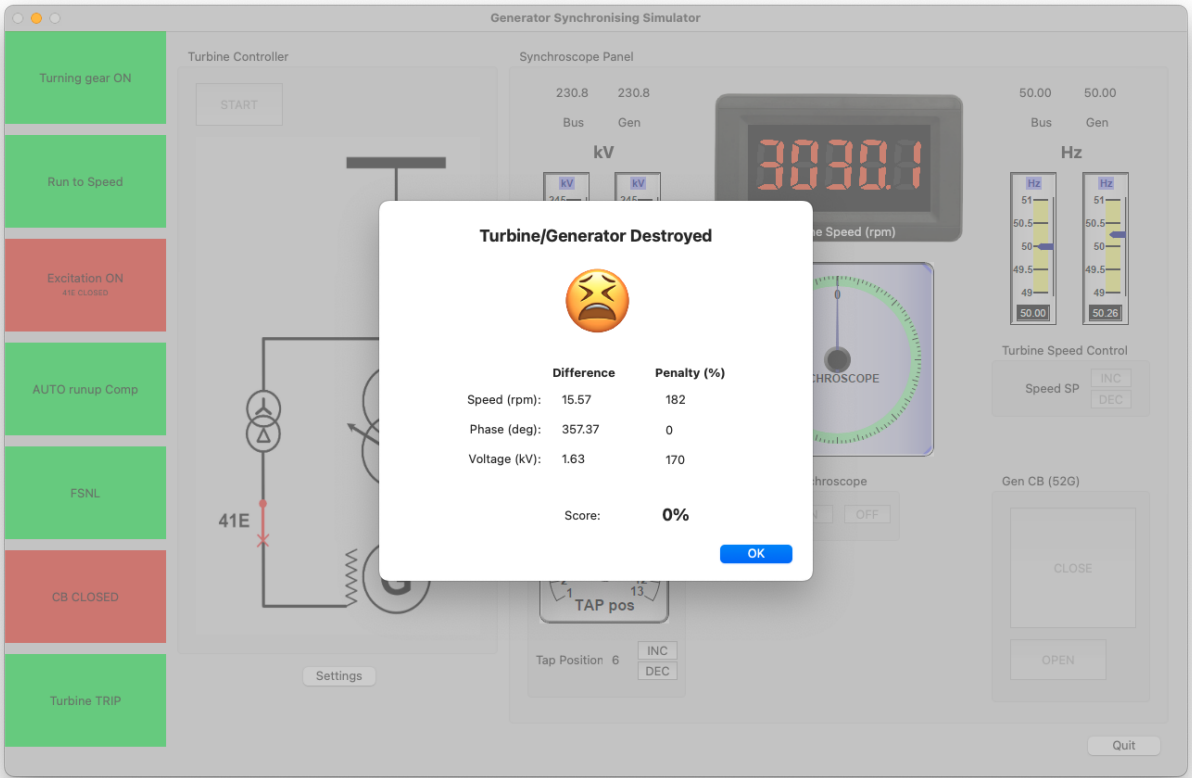

Figure 8: Not a good result
9. Once the Generator CB is closed and the machine synchronised to the Busbar your score will be displayed (see Figure 8). Anything less than 50% will result in damage to the turbine and/or generator and involve a long maintenance outage.